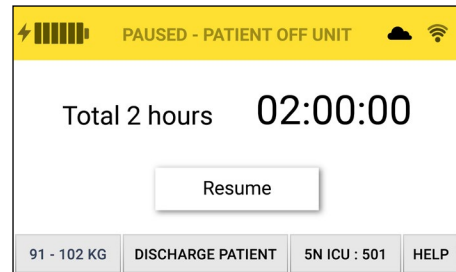

Figure 10. Paused - patient off unit screen
6. The Paused - Patient Off Unit screen will display the new remaining pause time and indicate that the patient is off unit for an extended period of time (Fig. 10)